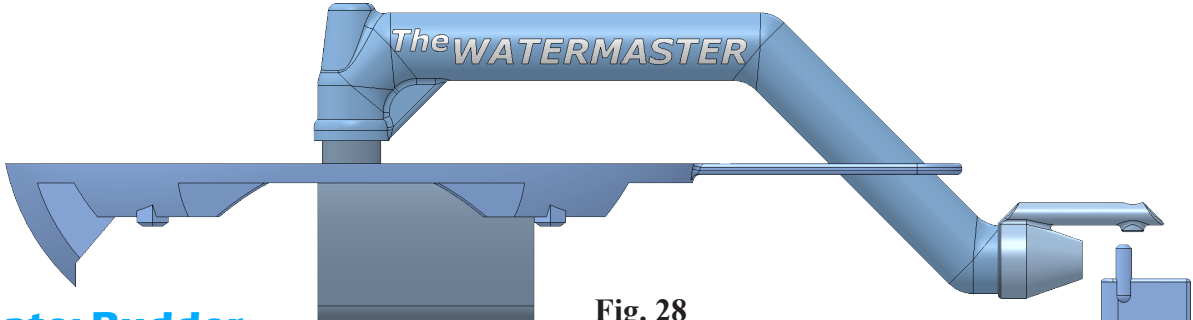

Fig. 28
Step 2. Select **RUDDER** file and place, **Fig. 28**.